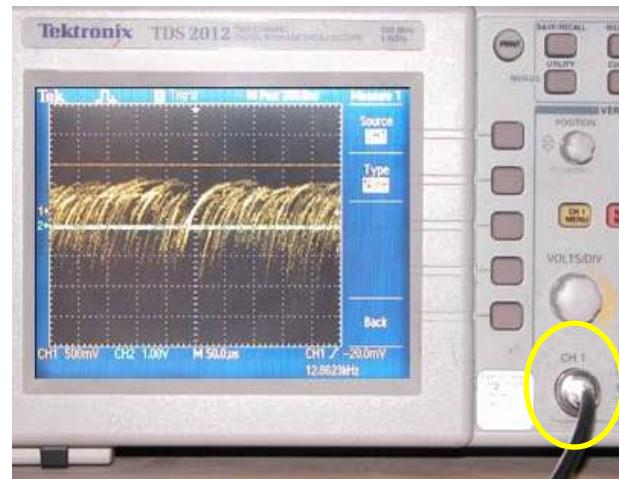

Figure 8D
6. Set the oscilloscope to 500mv/division vertical gain and the time base to 50.0 μ s/division and trigger to negative slope. Use the existing BNC cable from the detector and connect it to the oscilloscope probe input as seen in *figure 8D*. If necessary, the BNC cable from the detector may be extended using a BNC to BNC adaptor.
After placing a $10\mu\text{Ci}$ source of ^{137}Cs on the detector, the above display should appear (figure 8D).